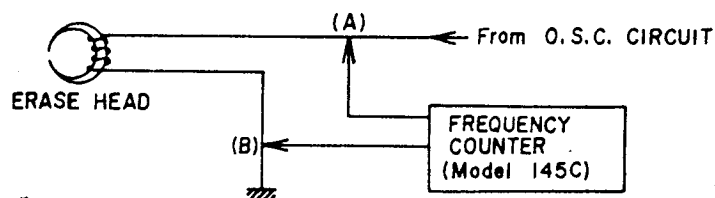

Fig. 16
3. RECORDING BIAS FREQUENCY ADJUSTMENT (See Fig. 16)
Connect a Frequency Counter to points (A) and (B) in Fig. 16 of the Erase Head and read the frequency indication.